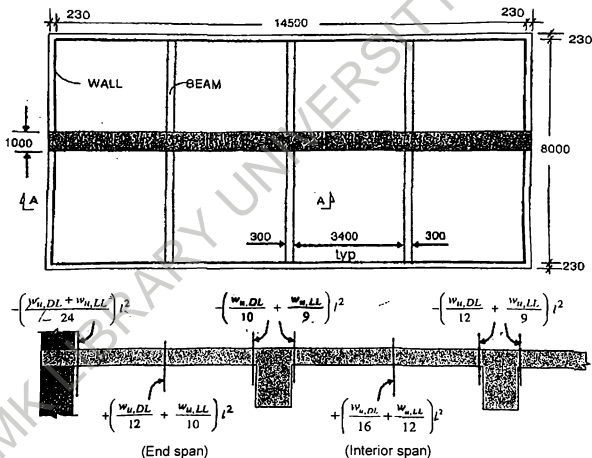

Figure 4
16. The plan of a floor slab system, covering an area 8.0 m. \times 14.5 m. (clear spans) is shown in Figure. 4. The slab rests on a 230 mm. thick masonry wall all around. For economy, the span of the slab is reduced by providing three (equally spaced) intermediate beams along the 8.0 m direction, as shown. The specified floor loading consists of a live load of 4 kN/m², and a dead load (due to floor finish, partitions etc.) of 1.5 kN/m² in addition to the self-weight. Assuming Fe 415 steel, design and detail the floor slab. Assume the beam is subjected to moderate exposure conditions.